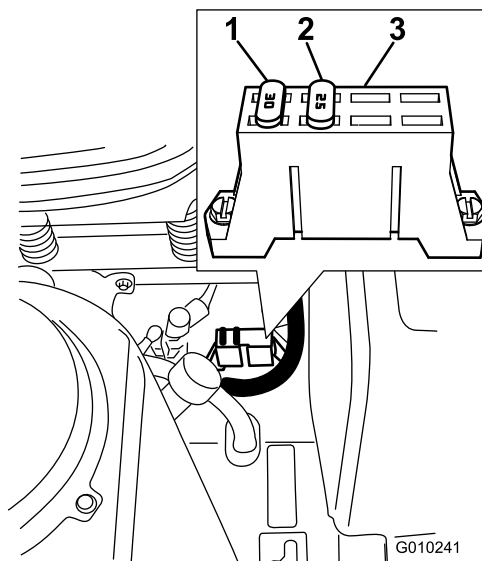

Figure 44
1. The fuses are located on right hand console next to the seat (Figure 44).
3. Install a new fuse (Figure 44).